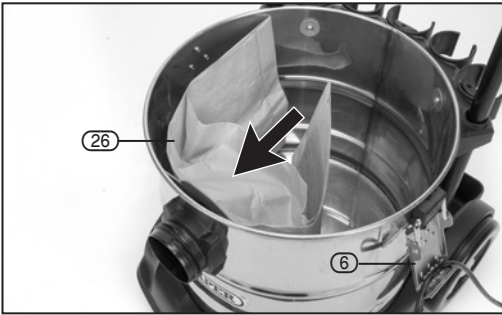

FIG. 7
7.2 ATTACHING THE PAPER DUST BAG – FIG. 7